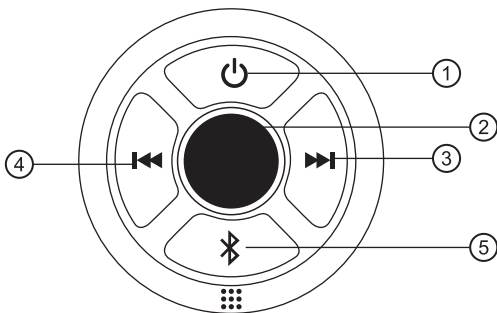

Fig.3
- 3) Use the supplied foam gasket to give a waterproof seal and the plastic threaded nut (Fig.3 ) to secure the controller in place. Hand tighten in place so the controller does not spin or turn.